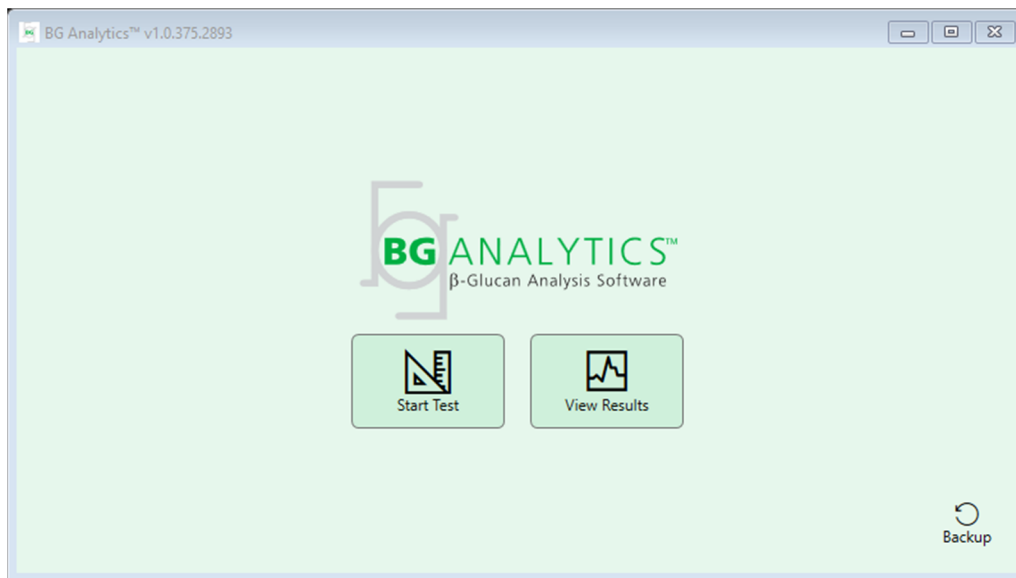

Figure 4. BG Analytics® Home Screen
4. The **Home** screen appears as shown in Figure 4.